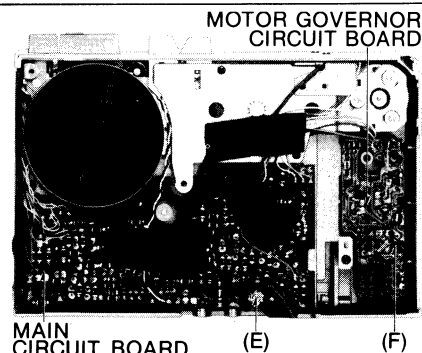

Fig. 3
- iv) Remove the flywheel assembly (M12). (Refer to Fig. 3).
- v) Remove five screws (B), the playback rod spring (M16), and counter belt (M79). The intermediate plate assembly can be removed from the mechanism unit.